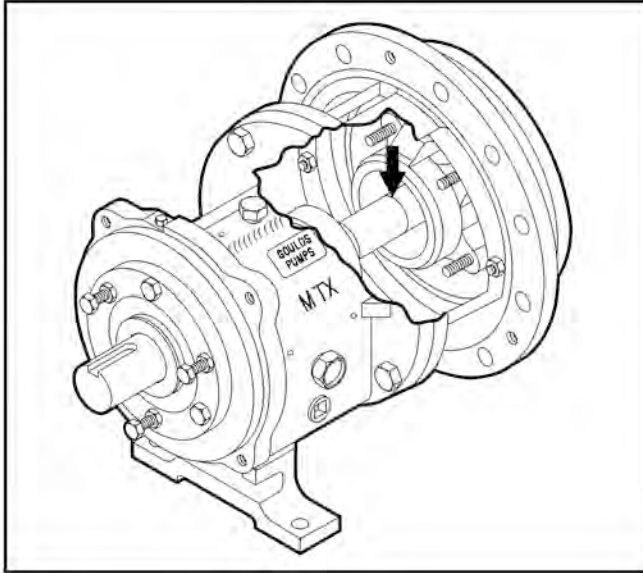

Figure 59:
18. Remove impeller (101), and shaft sleeve (126) if used (Fig. 59).